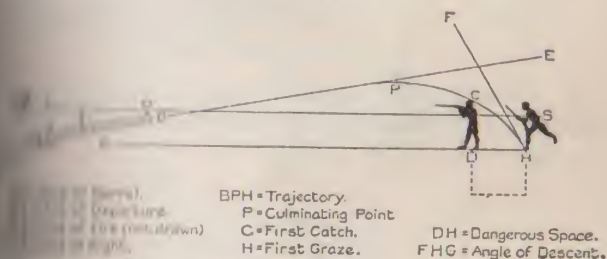

FIG. 2.
5. Aiming off.—Carried out with rifles and aiming rests, using small target and Fig. 2 silhouette up to 300 yards. Men will aim rifles at different points of aim on small target, or target widths of Fig. 2 silhouette.
3. Definitions (See Figure 2)